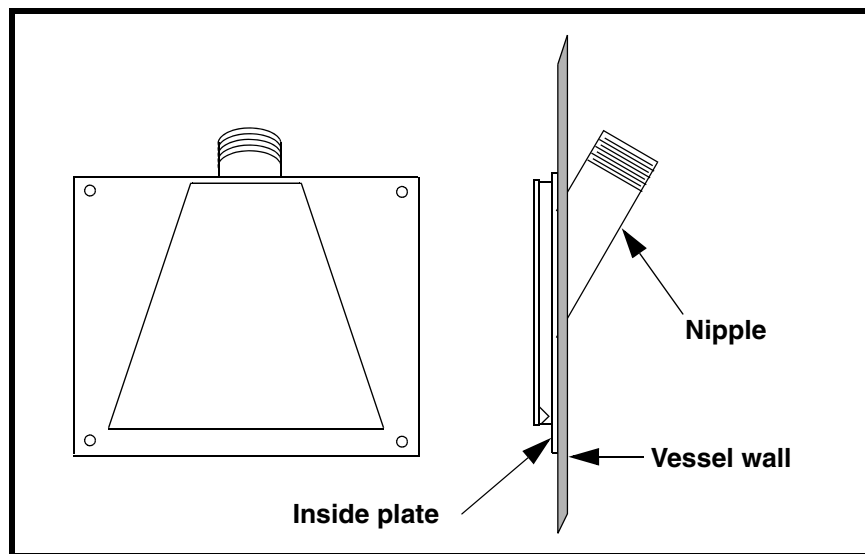

Figure 7. Fan Jet Mounting Plate
- c. If using a fan jet mounting plate (Figure 7), cut a round hole in storage vessel for each mounting plate or use template on last page of this manual. Slide nipple through hole from inside. Field weld inside plate and nipple to vessel wall.